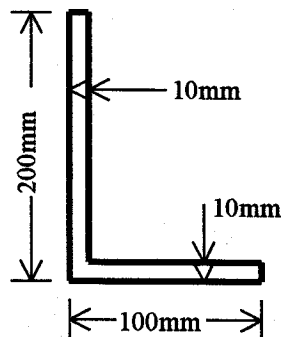

Fig. Q7
7. Find the principal axes and the principal second moments of area of the unequal leg angle section shown in Fig. Q7. Calculations should be made for centroidal axes.